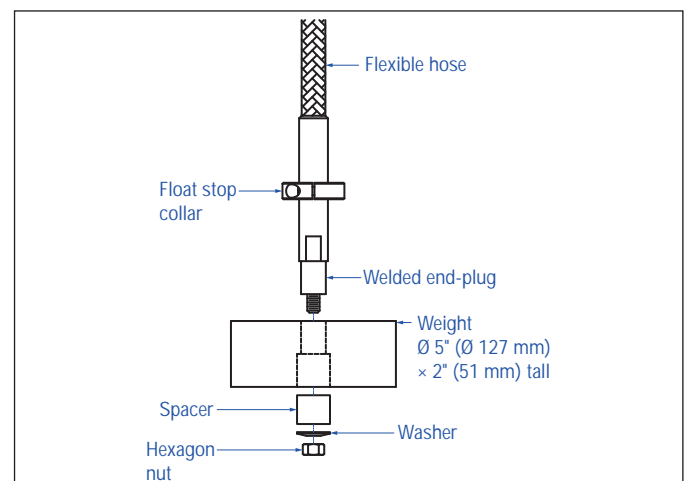
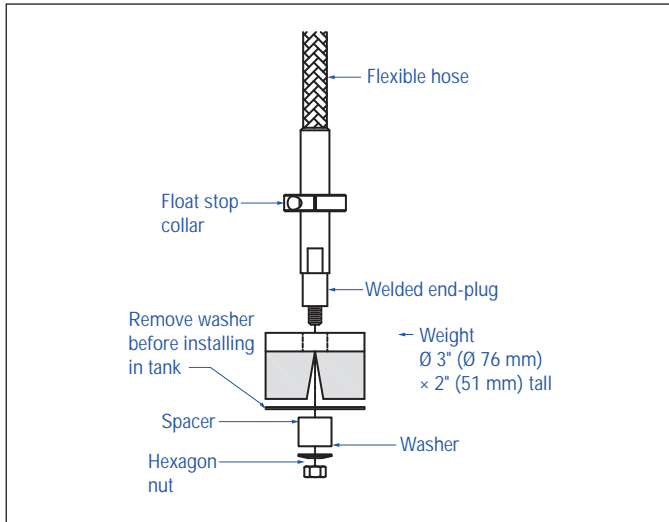
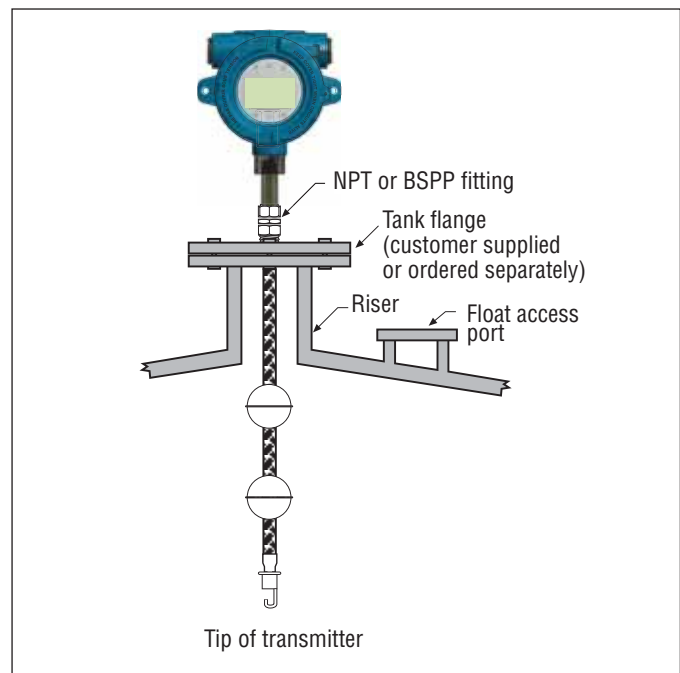

Fig. 8: Bottom fixing weight
Fig. 9: Bottom fixing magnet
Fig. 11: Threaded flange mounting for flexible pipe
5. Mount the hook, weight, or the magnet to the welded end-plug section of the pipe (this is the bottom rigid section of the pipe) using the supplied nut, spacer and washer, tighten securely as shown in Fig. 8, Fig. 11 and Fig. 9. For the magnet, remove
In most applications, the Tank Slayer® transmitter can be mounted directly to the tank or flange via a NPT or BSPP threaded fitting, assuming there is a proper threaded connection available. If the float will not fit through the flange opening when the flange is removed, there must be some alternative means to mount the float on the transmitter from inside the vessel; this may require an access port nearby the entry point of the transmitter as shown in Fig. 11.